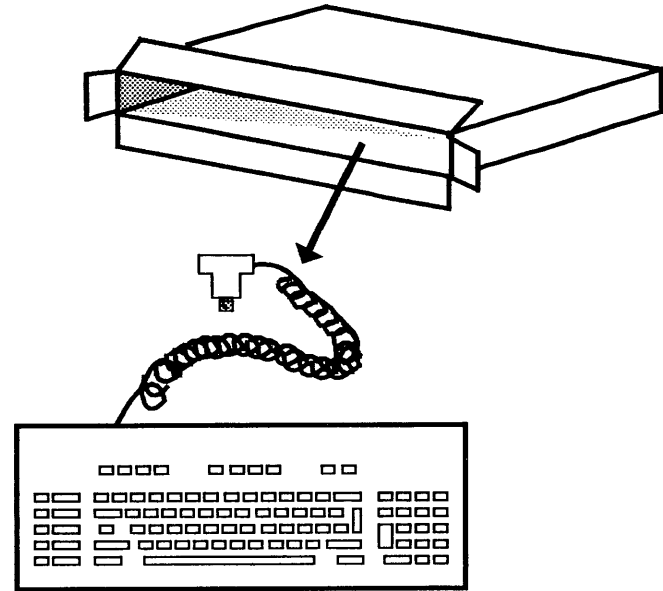

Figure 9. Unpacking the Keyboard
1. Unpack the box marked "Keyboard." (Figure 9)